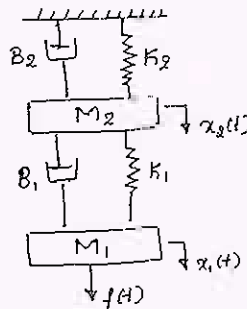

Fig.Q3(a)
- 3 a. Write the Force – Voltage and Force current analogous circuit for the mechanical system shown in Fig.Q3(a).